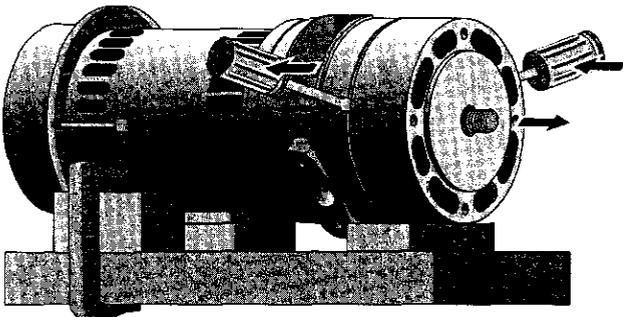

Figure 25
10. Carefully tap a small screwdriver or thin bladed chisel in between the intermediate volute and the pump adapter in two or three places around the pump to separate the castings (Figure 25). *Do not mar the sealing surfaces; do not break pieces out of the adapter or volute - the castings are easily damaged.*